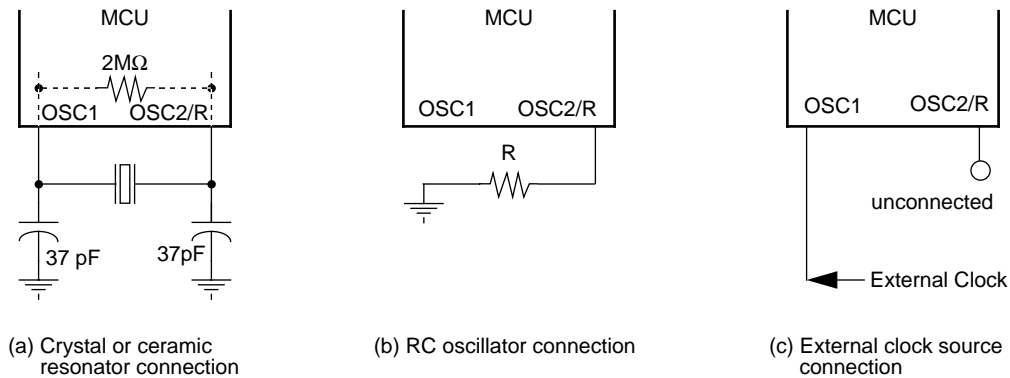

Figure 1-4. Oscillator Connections
1. A crystal as shown in **Figure 1-4(a)**
2. A ceramic resonator as shown in **Figure 1-4(a)**
3. An external resistor as shown in **Figure 1-4(b)**
4. An external clock signal as shown in **Figure 1-4(c)**
The circuit in **Figure 1-4(a)** shows a typical oscillator circuit for an AT-cut, parallel resonant crystal. The crystal manufacturer's recommendations should be followed, as the crystal parameters determine the external component values required to provide maximum stability and reliable start-up. The load capacitance values used in the oscillator circuit design should include all stray capacitances. The crystal and components should be mounted as close as possible to the pins for start-up stabilization and to minimize output distortion. An internal start-up resistor of approximately $2 M\Omega$ is provided between OSC1 and OSC2/R for the crystal type oscillator as a mask option.
In cost-sensitive applications, a ceramic resonator can be used in place of the crystal. The circuit in **Figure 1-4(a)** can be used for a ceramic resonator. The resonator manufacturer's recommendations should be followed, as the resonator parameters determine the external component values required for maximum stability and reliable starting. The load capacitance values used in the oscillator circuit design should include all stray capacitances. The ceramic resonator and components should be mounted as close as possible to the pins for start-up stabilization and to minimize output distortion. An internal start-up resistor of approximately 2 M Ω is provided between OSC1 and OSC2/R for the ceramic resonator type oscillator as a mask option.
The lowest cost oscillator is the RC oscillator configuration. With this option an external resistor is connected between OSC2/R pin and the V_{SS} pin as shown in **Figure 1-4(b)**. The typical operating frequency f_{OSC} is set at 4 MHz with the external R tied to V_{SS} . The internal start-up resistor of approximately 2 M Ω is not connected between OSC1 and OSC2/R for the mask option of the RC type oscillator.
An external clock from another CMOS-compatible device can be connected to the OSC1 input, with the OSC2/R input not connected, as shown in **Figure 1-4(c)**. This configuration is possible only when the crystal/ceramic resonator mask option is selected.